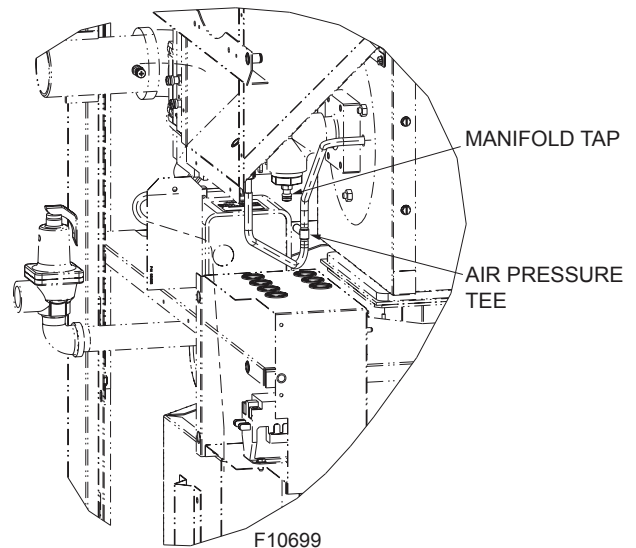

Figure 44. Air Pressure Tee
- Attach (1) 12" scale manometer on the fan suction pressure hose. Pull black cap from the air pressure tee as shown in **Figure 44** and connect the manometer. NOTE: Retain caps for re-installation later.
- Check blower suction using the manometer attached to the air pressure tee as shown in **Figure 44**, with the heater firing at 100% input. The reading should be as noted in **Table T** for both natural and propane gas.